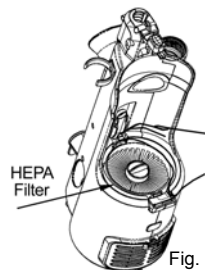
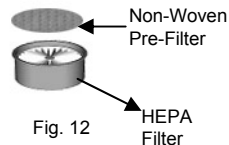

Fig. 11
Fig. 12
3. The HEPA filter is located underneath the dust cup container. (Fig. 11) Remove the non-woven pre-filter. (Fig. 12) Remove the HEPA filter, hold the edges and pull it out slowly.